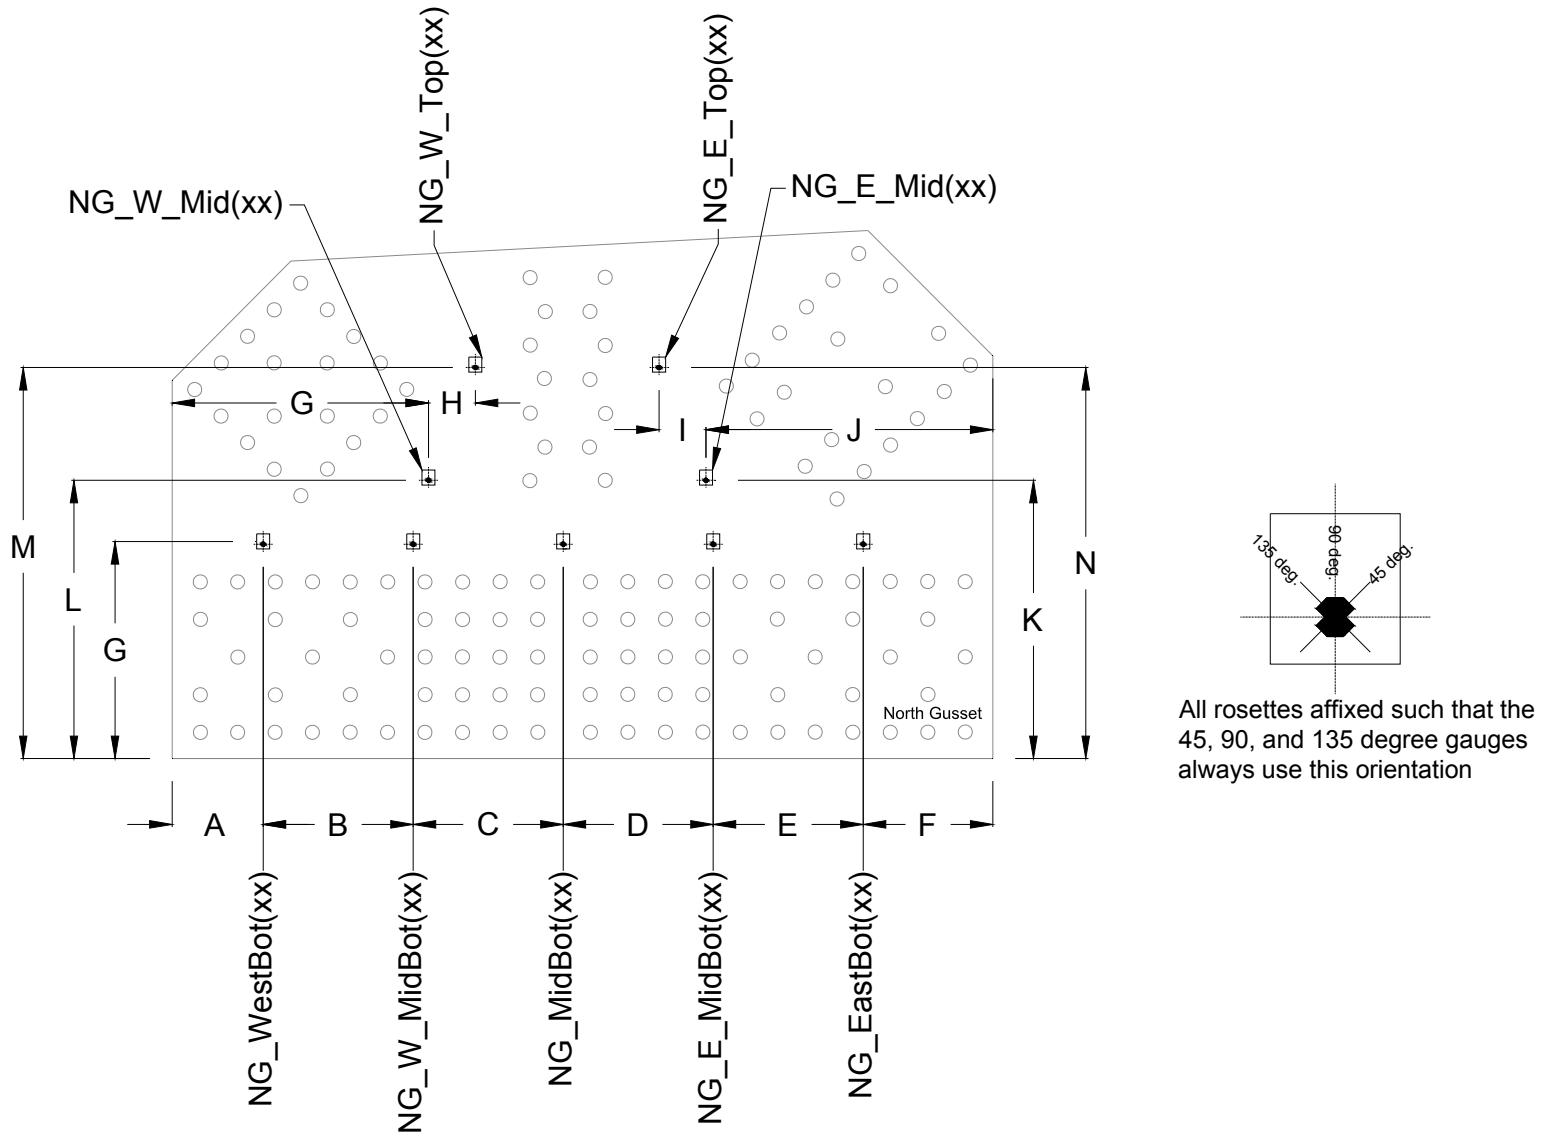
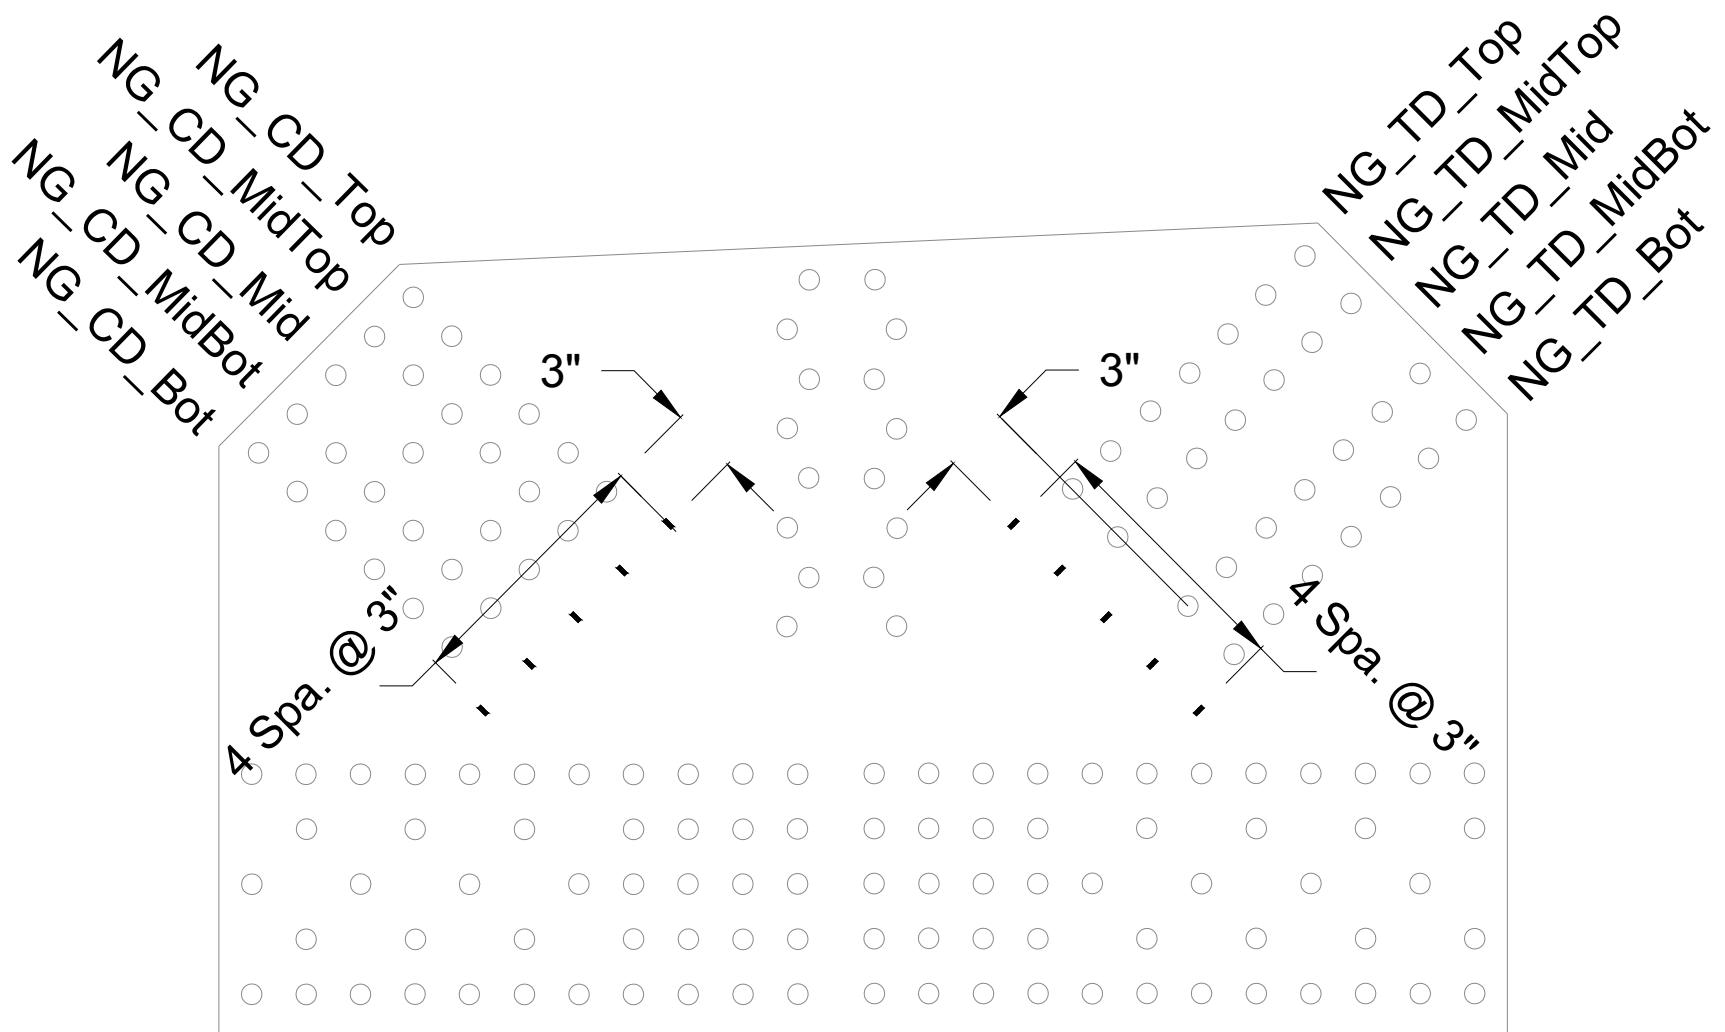

Figure G1. Placement and labeling (of north plate) of nine strain rosettes on the interior surface of each gusset plate.
Figure G2. Location and labeling (for north plate) of ten uniaxial strain gauges on interior of each gusset plate.
The interior surface of every gusset plate had nine rosettes applied according to the dimensions shown in Figure G1 and Table G1. All rosettes applied to both the north and south plates used the same orientation as shown in the figure, from an observer's standpoint outside the connection looking from south to north. In other words, the 90 degree gauge on the rosette was vertical, the 45 degree gauge was inclined to the east, and the 135 degree gauge was inclined to the west on both plates. In addition, five uniaxial strain gauges were affixed near the end of each of the diagonal members as shown in Figure G2.
In the section entitled “Variations in Principal Strain” are 10 graphs, where each graph shows the data from each individual rosette affixed along the horizontal plane just above the chord. Four plots are presented for each rosette, “ $\epsilon_1$ ” is the first principle strain, “ $\epsilon_2$ ” is the second principle strain, “ $\gamma_{max}$ ” is the maximum shear strain, and “ $\theta_1$ ” is the angle to the first principle strain direction. As a note, the 45, 90, and 135 degree gauges within the rosettes were always oriented in the same manner. That is, from a prospective outside of the assembled connection, looking from south to north, the 90 degree orientation was straight up, the 45 degree orientation was to the right, and the 135 degree to the left. This orientation was used for both the north and south plates. This is also shown in Figure G1. All data are plotted against the ALF along the horizontal axis. As a reference, the maximum shear strain for the measured yield stress is shown as a dashed line.
*Table G1. Dimension Cross Reference to Figure G1 Rosette Gauge Location*